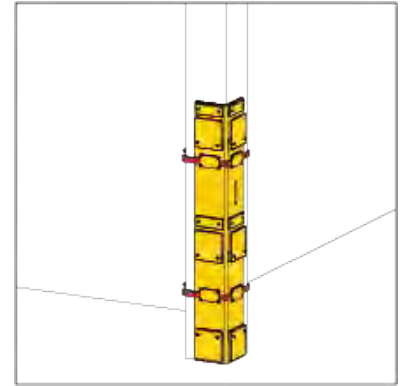

Figure 53
- Square Corner Guard (Fig. 53)